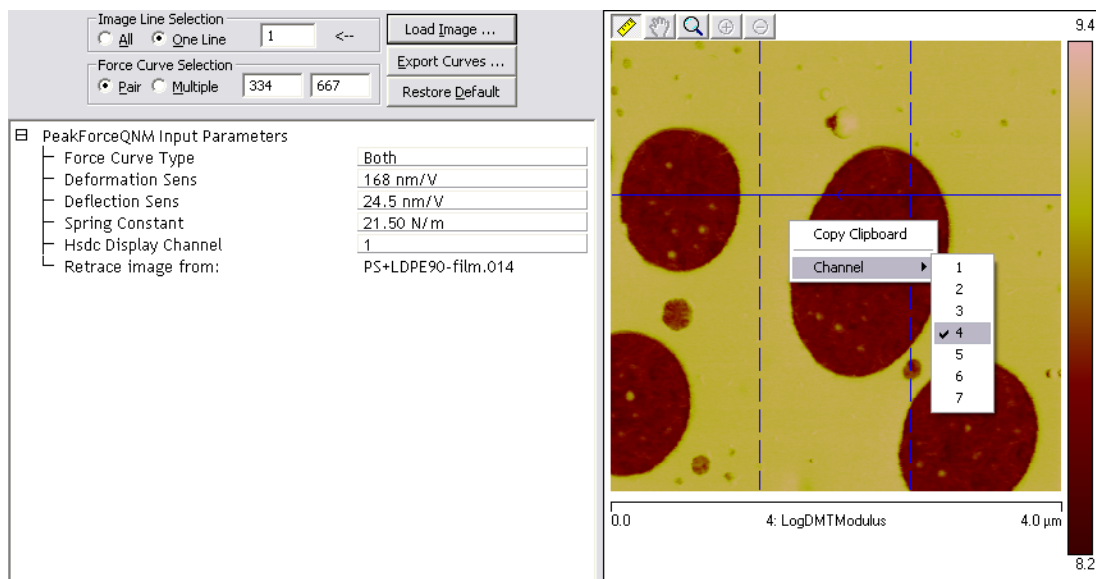

Figure 8.1c: Vertical cursors display X position
6. Two vertical dashed blue cursors, shown in Figure 8.1c, display the X position of the displayed force curves when **Pair** is checked in the **Force Curve Selection** box. The associated number boxes display the Z piezo tap number. You may move the force position by either dragging the dashed blue cursors in the image, the dashed red cursors (see Step 7) in the time display or entering the numbers in the **Force Curve Selection** panel. You may select the channel of the captured image by right-clicking in the image as shown in Figure 8.1c.